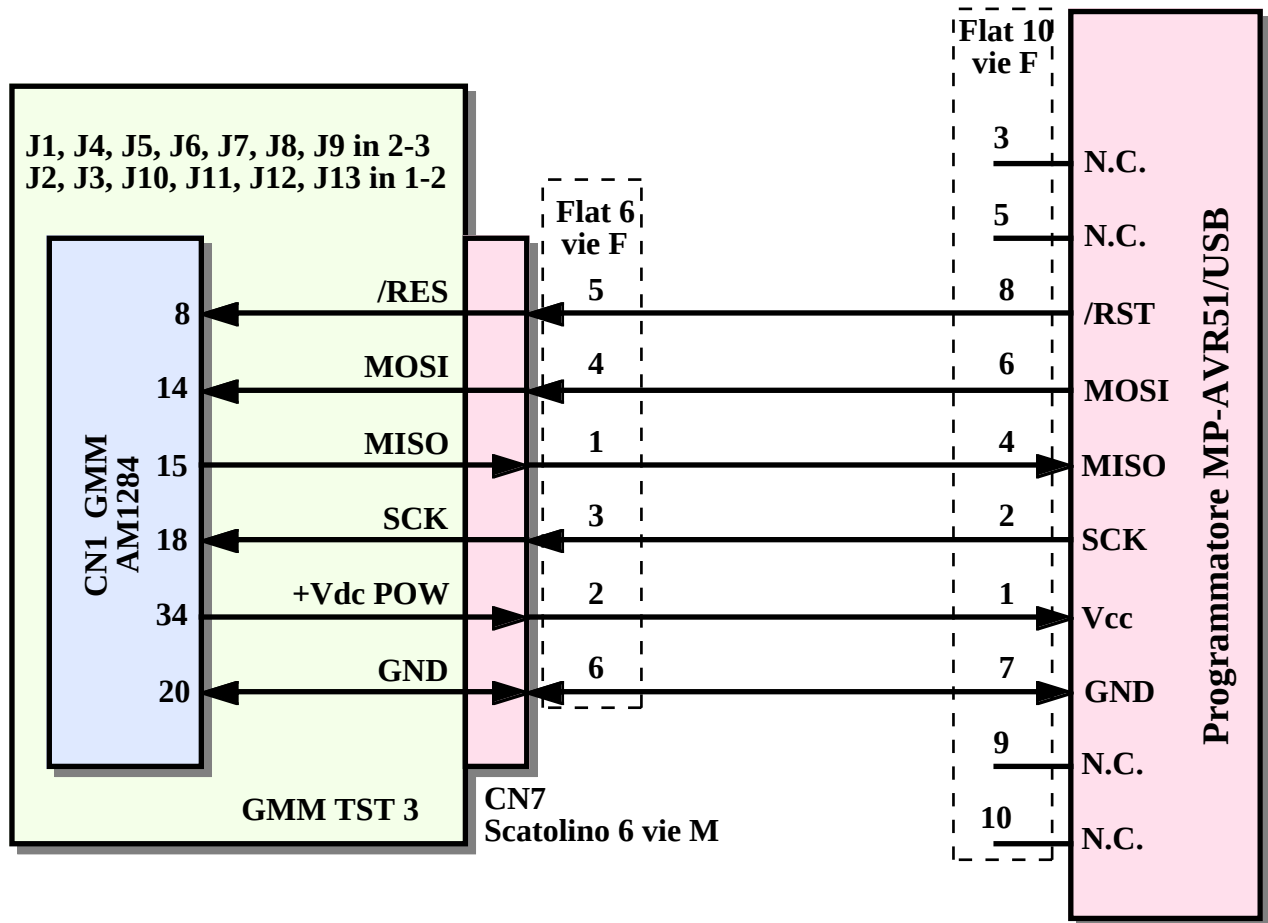

FIGURE D11: MP-AVR51/USB CONNECTION
- d) Connect the **MP-AVR51/USB** to the ISP interface of the **GMM AM 1284**, paying attention to connect the 6 signals of the same one, as you can see in the figure D11. If the user has a **GMM TST 3** the connection will happen on the CN7 connector, by interposing a proper wire adaptor which is able to adapt the two connectors provided with a different pin out. It also will have to configure the jumpers of the **GMM TST 3** properly, as you can see in the following figure.
- e) As it is shown in the figure D11 the ISP interface uses 4 signals of the Mini Mode and its electricity supply. For this reason, during the use of the **MP-AVR51/USB** the signals connected to the pin 8, 14, 15, 18 of the socket can't be used by the user.